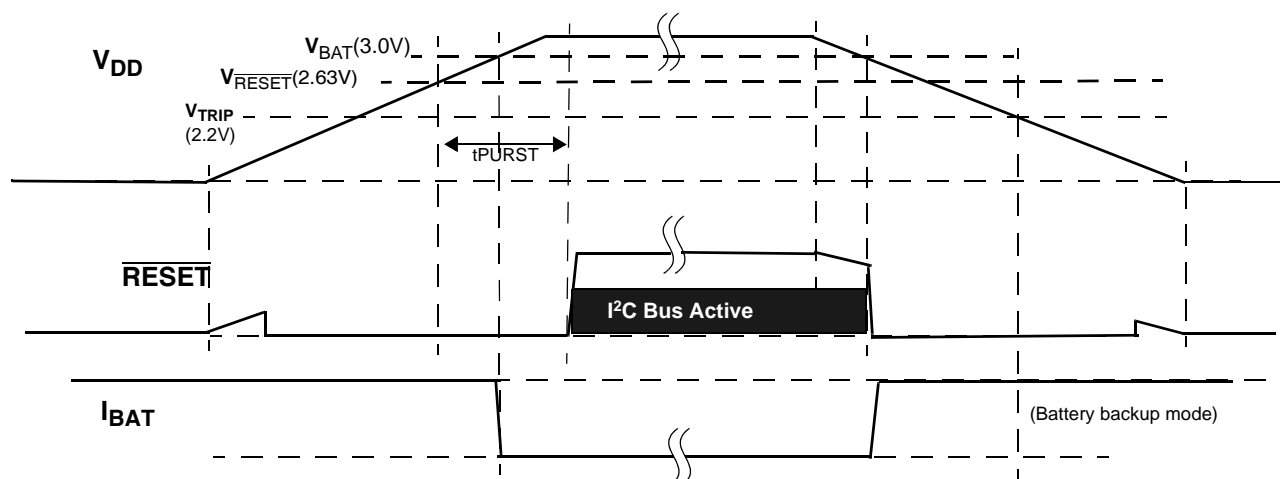

FIGURE 30. RESET OPERATION IN MODE D
- Mode D - In this mode the selection bits indicate switchover to battery backup at $V_{\text{DD}} < V_{\text{BAT}}$, and no I²C communications in battery backup. This mode is unique in that there is I²C communication as long as V_{DD} is higher than V_{RESET} or V_{BAT} , whichever is greater. This mode is the safest for guaranteeing I²C communications only when there is a Valid V_{DD} . (see Figure 30)